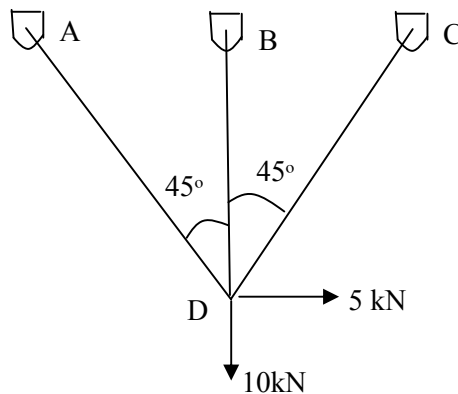

Fig. 4.
- 6 a) Explain how the effect of calibration error or temperature changes is considered in the analysis of trusses by matrix displacement method (5)
b) Find the forces in the members of the truss loaded as shown in Fig.4. using stiffness method. Take axial rigidity $AE = \text{unity}$ for all members. (10)